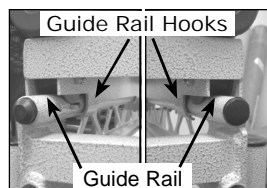
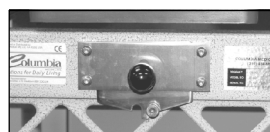

Figure 9
Figure 10
4. Insert the guide rail hooks into the guide rail and slide the seating frame assembly onto the rolling base. (Fig. 9). Be sure to slide the seating all the way until the safety latch locks into position on the base (Fig. 10).